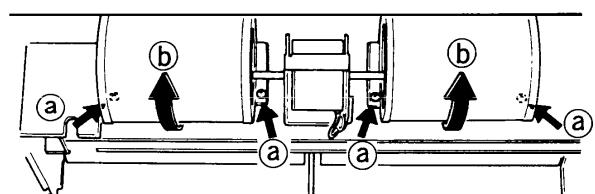

Fig. 10
- (1) Remove the four screws (a) fixing the fan casing.
(2) Rotate the fan casing for 90° in the direction of the arrows (b). Fig. 10